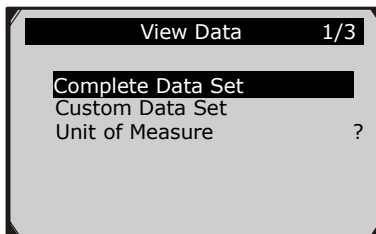

Figure 5.13
- 1) To view customized PID data, use the **UP/DOWN** scroll button to select **Custom Data Set** from **View Data** menu and press the **OK** button. (Figure 5.13)